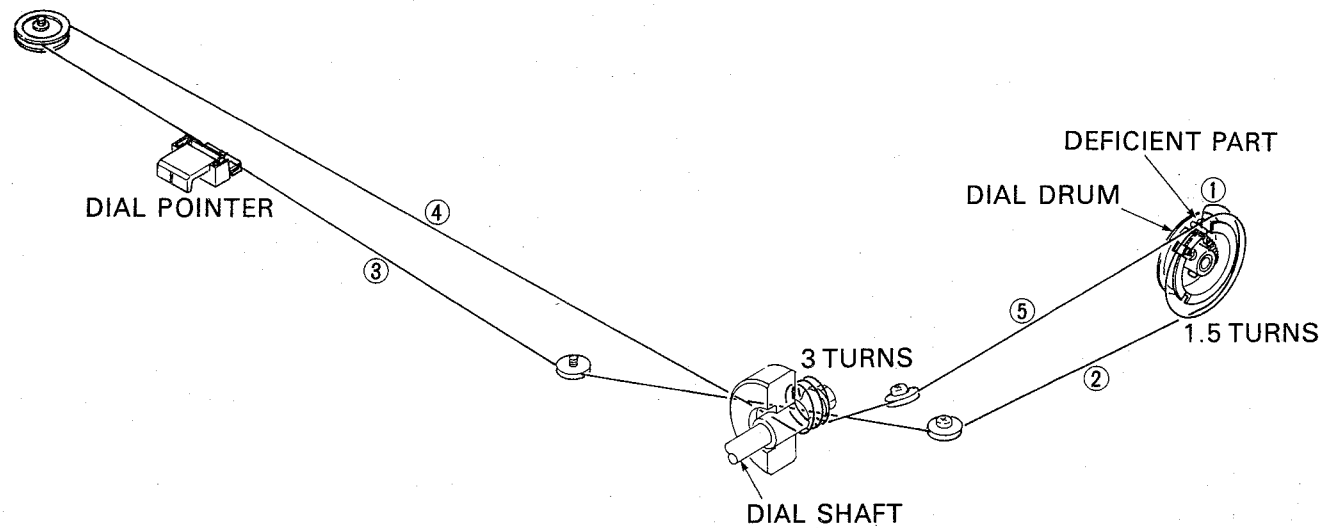

Figure 4
3. String the dial drum and pulleys with a new dial cord in accordance with Fig. 4 (in circled numbered order).